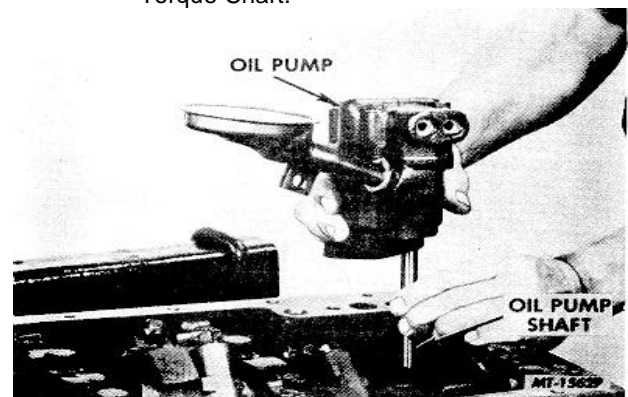

Fig. 160 Checking Oil Pump to Cylinder Block Alignment
- b. Check for correct alignment of pump in block. Pump shaft should rotate freely without binding if correctly aligned (Fig. 160).